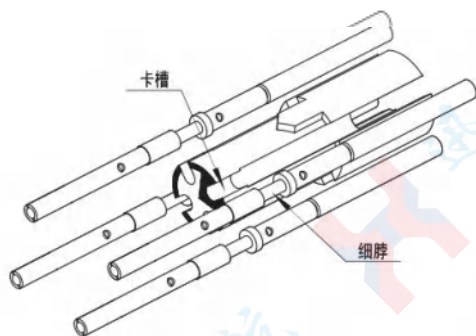

图2.8 中心孔的细脖卡入压线绝缘子的卡槽中
- 1)Snap the thin neck of the crimped center socket into the slot of the crimp insulator, as shown in Figure 2.8;